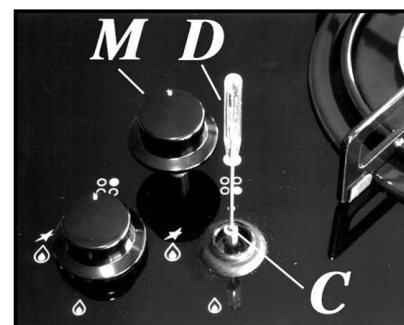

FIG. 8
- The adjustment of the reduced rate position is as follows (fig. 8):